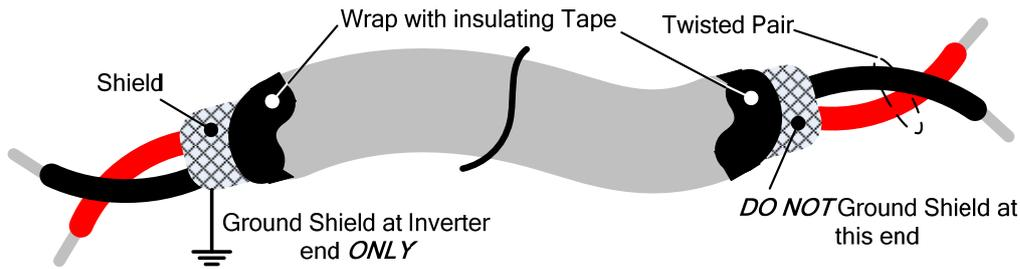

Fig. 3.4 Shielded Twisted-Pair
- (1) Separate the wiring for control circuit terminals from main circuit wiring for terminals (R/L1, S/L2, T/L3, U/T1, V/T2, W/T3).
- (2) Separate the wiring for control circuit terminals R1A-R1B-R1C (or R2A, R2C) (Relay outputs) from wiring for terminals S1~6, A01, A02, GND, DO1, DOG, +10V, -10V, AI1 AND AI2 wiring.
- (3) Use shielded twisted-pair cables (#24 - #14 AWG / 0.5 -2 mm²) shown in Fig. 3.4 for control circuits to minimize noise problems. The maximum wiring distance should not exceed 50m (165 ft).